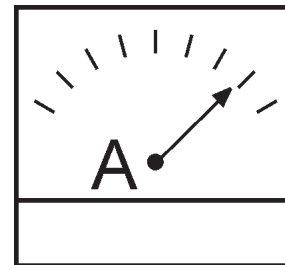

Figure 53. Ammeter (Load)
16. Observe the generator's ammeter (Figure 53) and verify it reads the anticipated amount of current with respect to the load. The ammeter will only display a current reading if the load is in use.